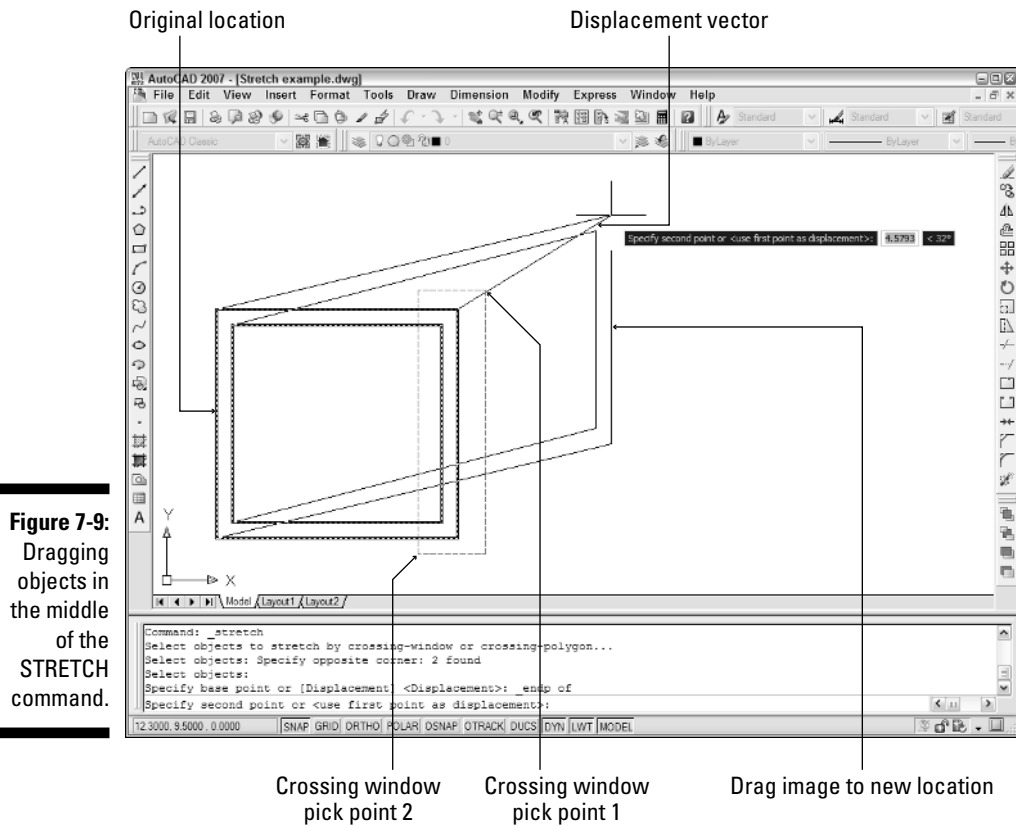

Figure 7-9: Dragging objects in the middle of the STRETCH command.
- 1. Draw some lines in an arrangement similar to the dark lines shown in Figure 7-9.**
Figure 7-9 shows a sample crossing selection box that completely encloses the two vertical lines on the right side of the figure. This crossing selection box cuts through the four horizontal lines, enclosing only one endpoint of each.
Figure 7-9 shows what the screen looks like as you move the crosshairs around with ortho off.